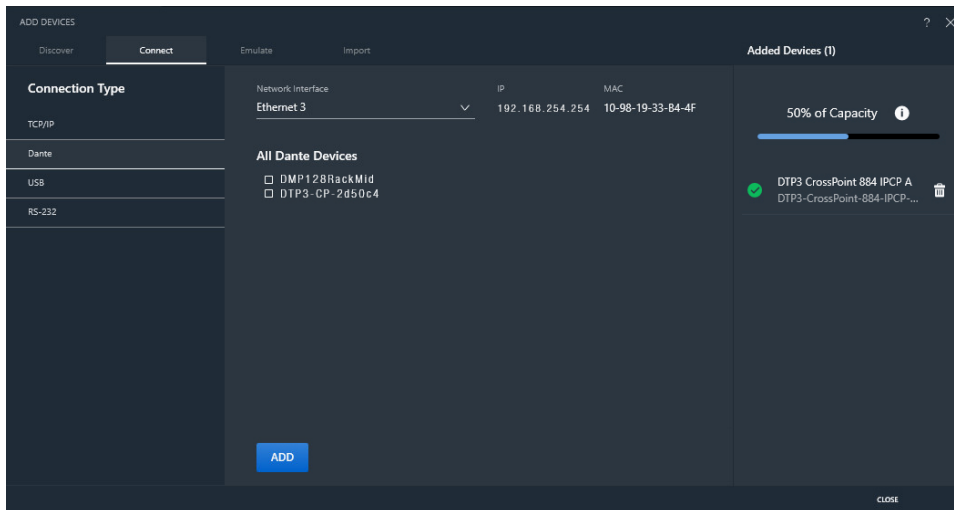

Figure 43. Connect to the Device via Dante
- Click the **Dante** tab (see figure 43) in the in the Connection Type panel.